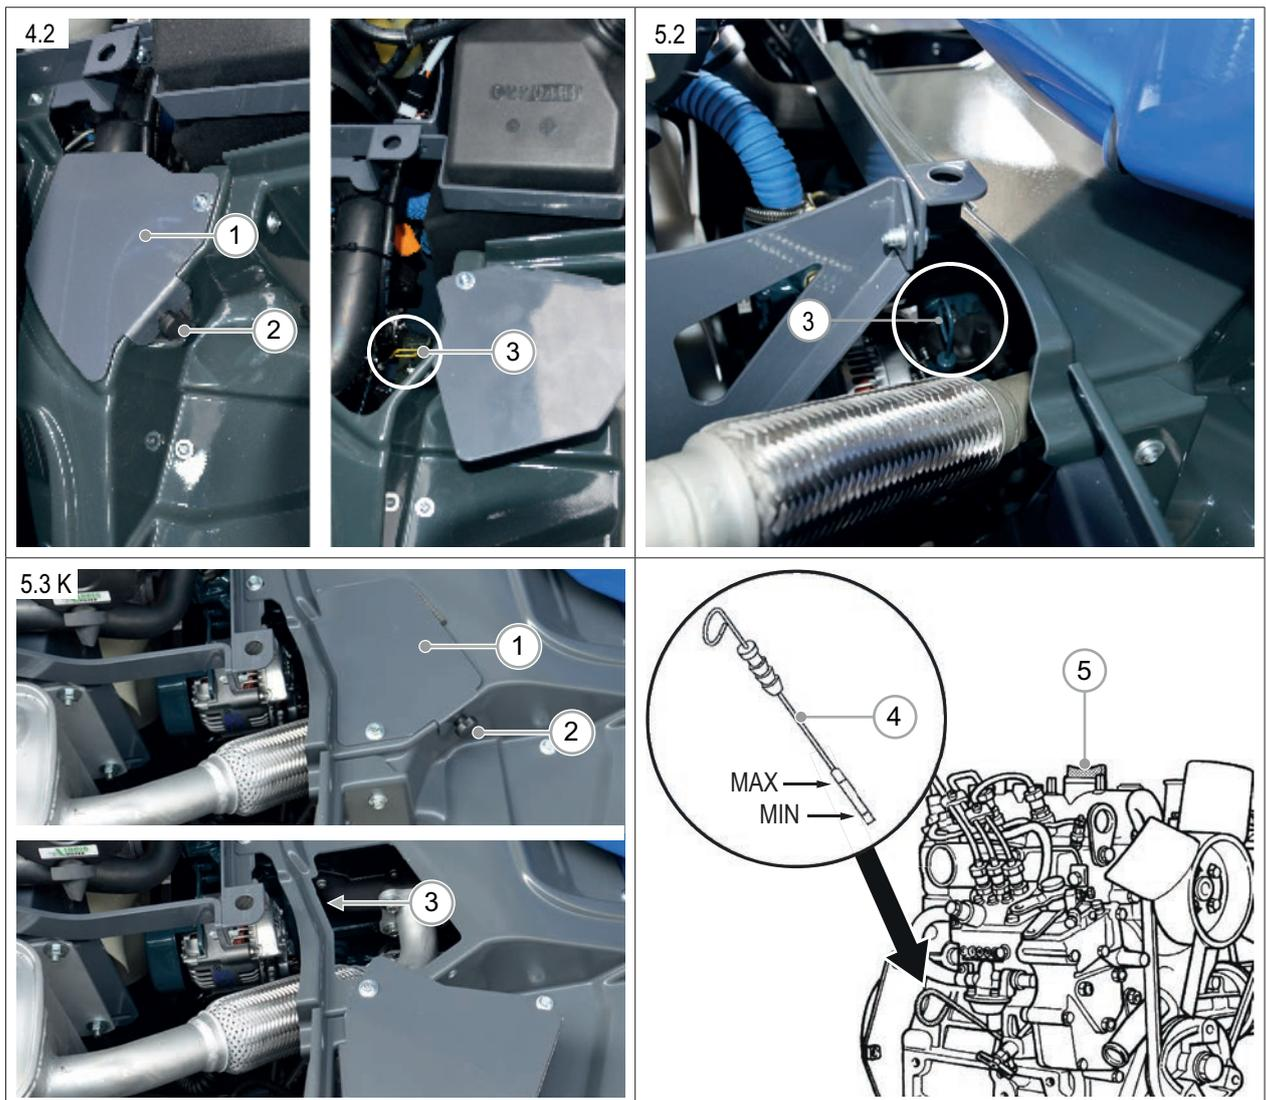

FIG. 52
- 4) **Model 4.2K and 5.3K:** Unscrew the knob (FIG. 52 - Ref. 2) to open the cover (FIG. 52 - Ref. 1) (4.2K: left side - 5.3 K: right side).
- 5) Pull out the dipstick (FIG. 52 - Ref. 3) and look for both the full and add oil lines (FIG. 52 - Ref. 4). The correct oil level is between those two lines.
- Open the cap of the engine oil filler (FIG. 52 - Ref. 5);